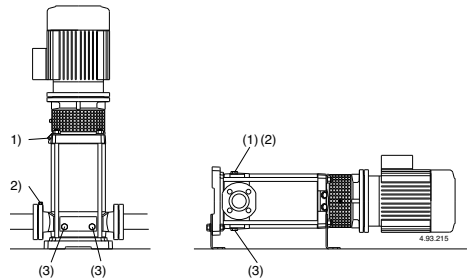

Fig.3 (1) Filling and air vent
ing hole (1) (**fig. 3**).
(2) Suction side air vent
(3) Draining
When the liquid level on the suction side is above the pump (inflow under positive suction head, **fig. 2B**), fill the pump by slowly and completely opening the inflow gate valve while keeping the delivery gate valve and air vent holes (1), (2) (**fig.3**) open to release the air.
Close the air vent holes (1), (2) (fig.3), for MXV-B, MXV(L) 25-32-40 e MXV(L)4 25-32-40 Tighten the needle screw (14.17) in the drainage plug (14.12) (fig. 3b) and close the air vent hole (14.04).
If a priming loss occurs (interruption of delivery flow, despite opened gate valves) or if a pressure oscillation is indicated on the pressure gauge, repeat the venting operation on the suction side (2), make sure all the suction pipe couplings are perfectly sealed and tighten the air vent plug (2) and the draining plugs (3) on the suction side (fig.3).
Or, after draining, perform the washing operation, inserting clean water (at least 40 litres) into the filling hole (1) on the delivery side and allowing it to come out of the draining hole (3) on the suction side (fig.3).
When the pump remains inactive it must be emptied completely if there is a risk of freezing. Remove both plugs (14.12), (position 3, fig.3).
Before dismantling, close the gate valves in the suction and delivery pipes and empty the pump casing (fig. 3).